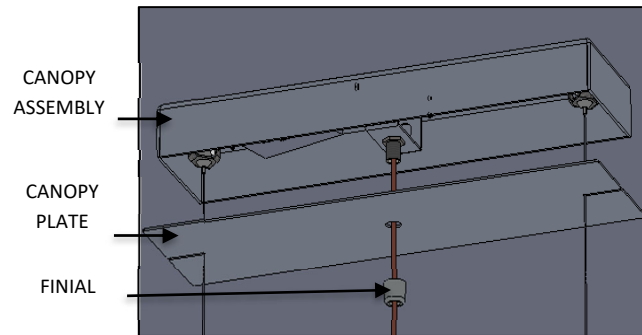

FIG. 12 - FINIAL INSTALLATION
7. Raise CANOPY PLATE and secure to ceiling by threading the FINIAL to the NIPPLE (CANOPY SUBASSEMBLY) until fully seated as shown in FIG. 12.